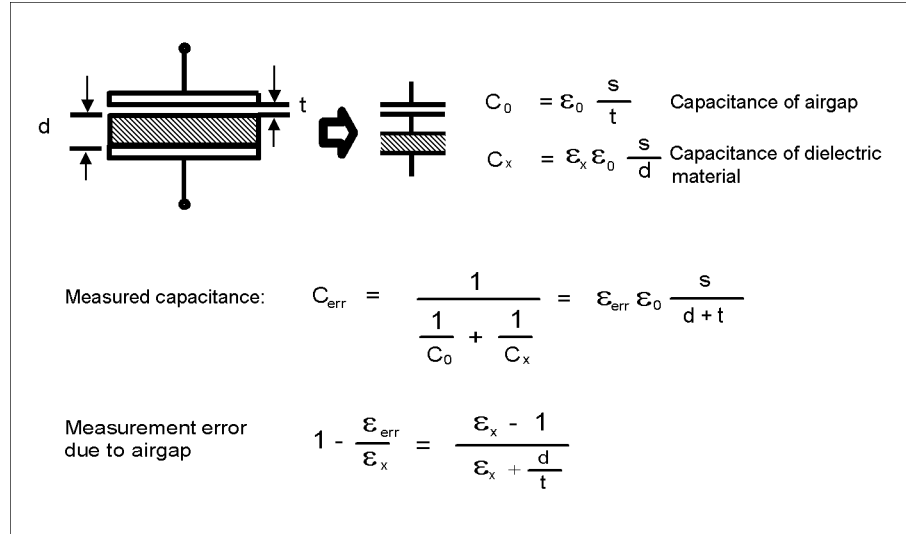

Figure 3-35. Airgap Effects
- Parallelism and Flatness of Electrodes and Test Material : When contacting the MUT directly with the electrodes, an airgap is formed between the MUT and the electrodes. No matter how flat and parallel both sides of the MUT is fabricated, an airgap will still form. This airgap is the cause for measurement error because the measured capacitance will be the sum of the capacitance of the dielectric material and the airgap. The relationship between the airgap's thickness and measurement error is determined by the equation shown in Figure 3-35. Measurement error is a function of the relative permittivity (ϵ_r') of the MUT, thickness of the MUT (d), and the airgap's thickness (t). Sample results of measurement error have been calculated in Table 3-9. Notice that the effect is greater with thin materials and materials with high permittivity.